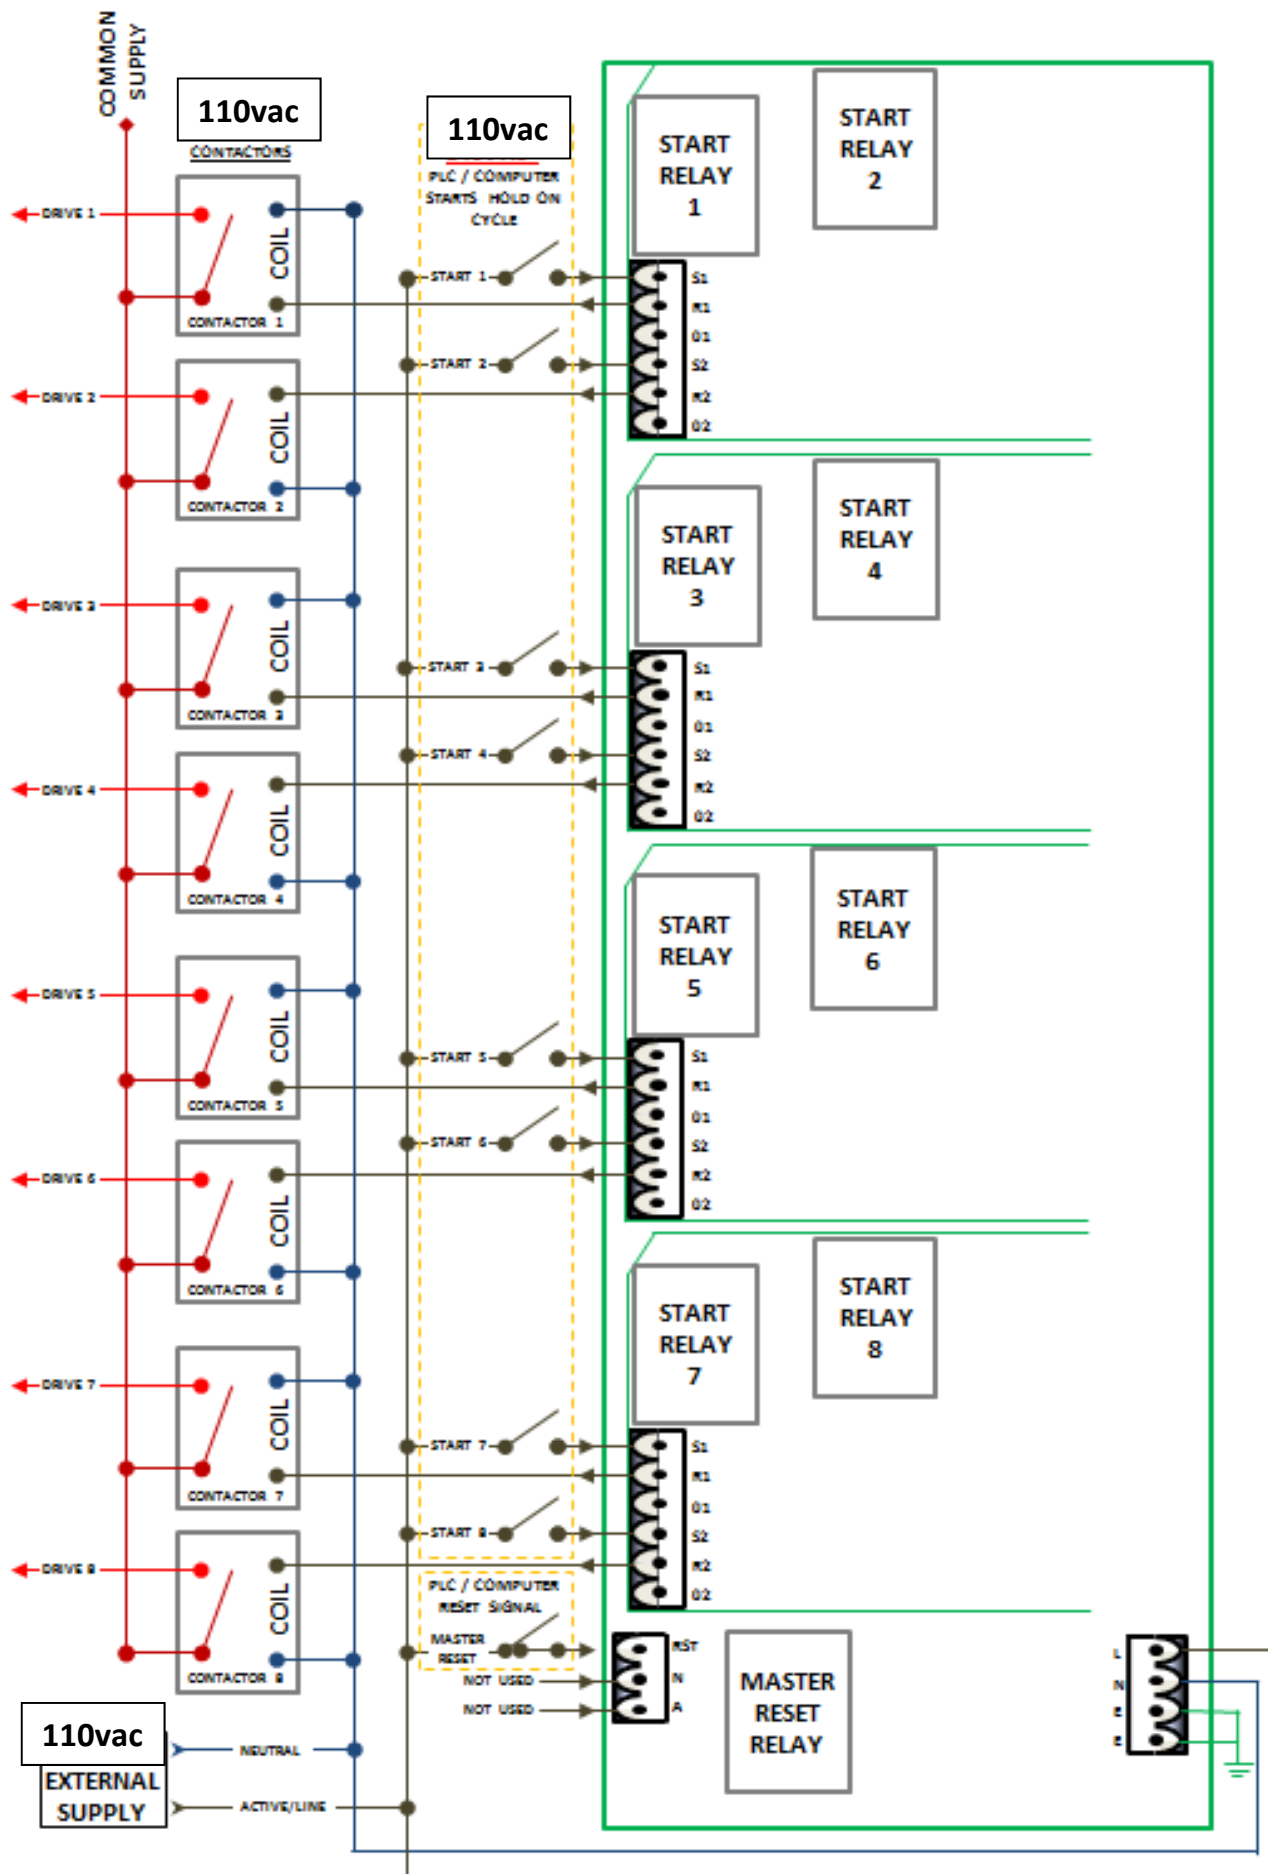

Figure 1. Motherboard Wiring Diagram, X1 and X5 plugs
- Figure 1. Overall wiring schematic. Page 3.
7. The entry or reconfiguration of program parameter data is achieved with a 4-button keypad programmer (see Figure 1 below) that is plugged into the appropriate socket in the external CAT5E Data Entry port on the outside of the ME2008 (see photo on bottom right of page 8). The programmer plug is keyed so that it can only be plugged in the correct way.